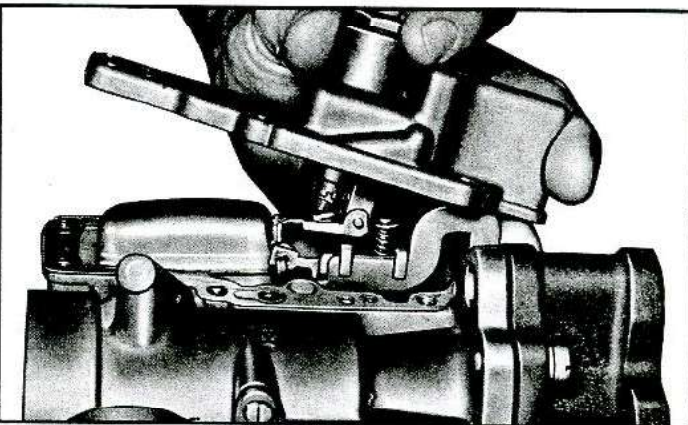

Fig. 26—Removing Bowl Cover
2. Remove six screws and float bowl cover (fig. 26).